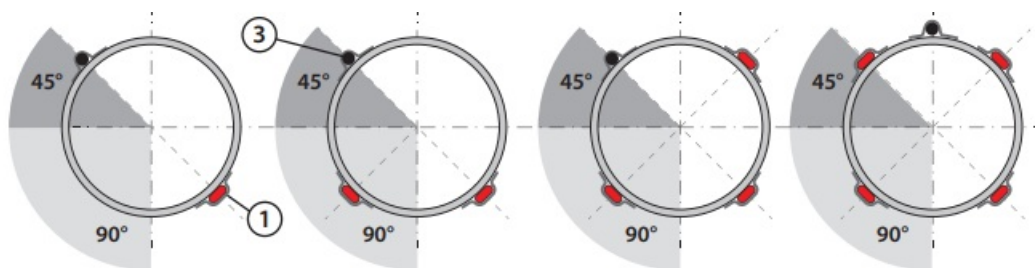

Fig. 2
4. Straight lines and sensor must be fitted as shown at Fig.2. Twisted lines are attached as shown for every approx. 1 m pipe with aluminum tape.